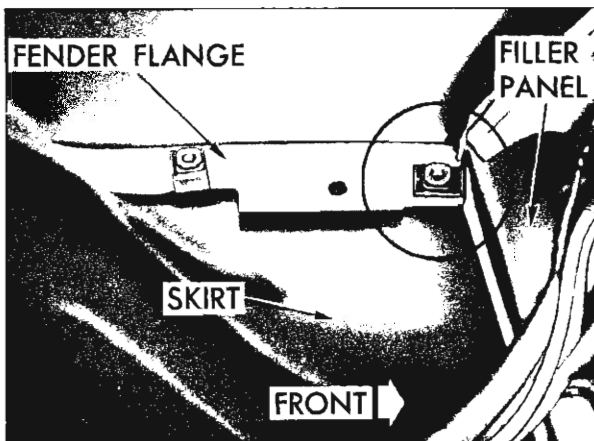

Fig. 140—Position of Left Front Fender Skirt
1. Position skirt on vehicle so that the front flange lies between the fender and bumper filler panel flanges in the area shown in Figure 140.